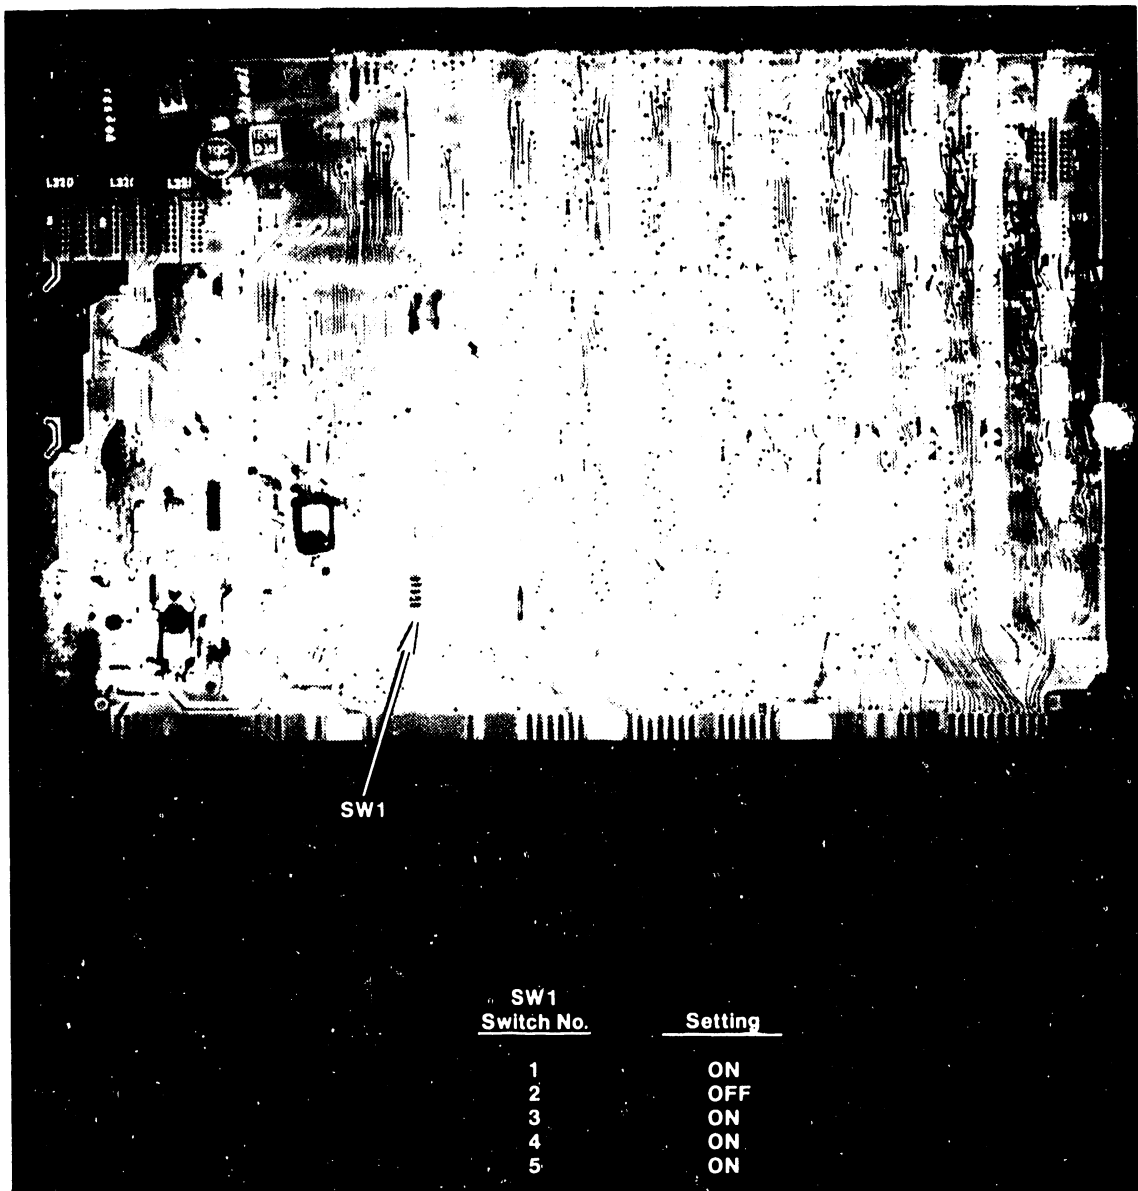

Figure 4-12 Soft-Sector Controller PCA Switch Settings
4.3.4.4 Soft-Sector Controller PCA (Refer to Figure 4-12)
The Soft-Sector Controller PCA (210-7414-A) appears only in certain VS AWS models. (Refer to Table 1-5.) The board contains DIP switch SW1 which must be set as shown below and illustrated in Figure 4-12.